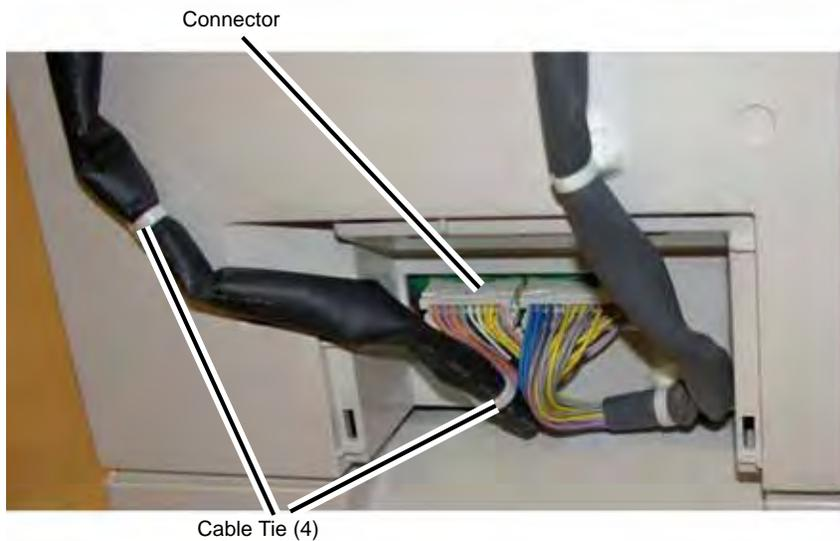

Figure 3 Disconnecting the Booklet Maker Assembly
- (2) Disconnect the Connector (Figure 3).
- (3) Pull out the Cable Ties (4).